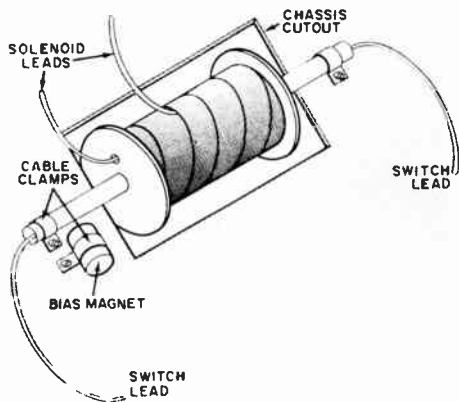

Fig. 2. If bias magnet is used, reed switch-relay assembly must be mounted over cutout in chassis to allow for positioning and orienting of the magnet.
**Installation and Setup.** If no bias magnet is used, the reed switch-relay can be simply mounted, using 1½"-long spacers and plastic cable clamps to support it on the chassis. Use of a bias magnet, however, requires that a hole be cut in the chassis and the reed switch-relay assembly located as shown in Fig. 2.